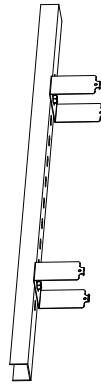

Figure 5
- Step1. Mount the bracket on the rail or ceiling; (Figure 5)